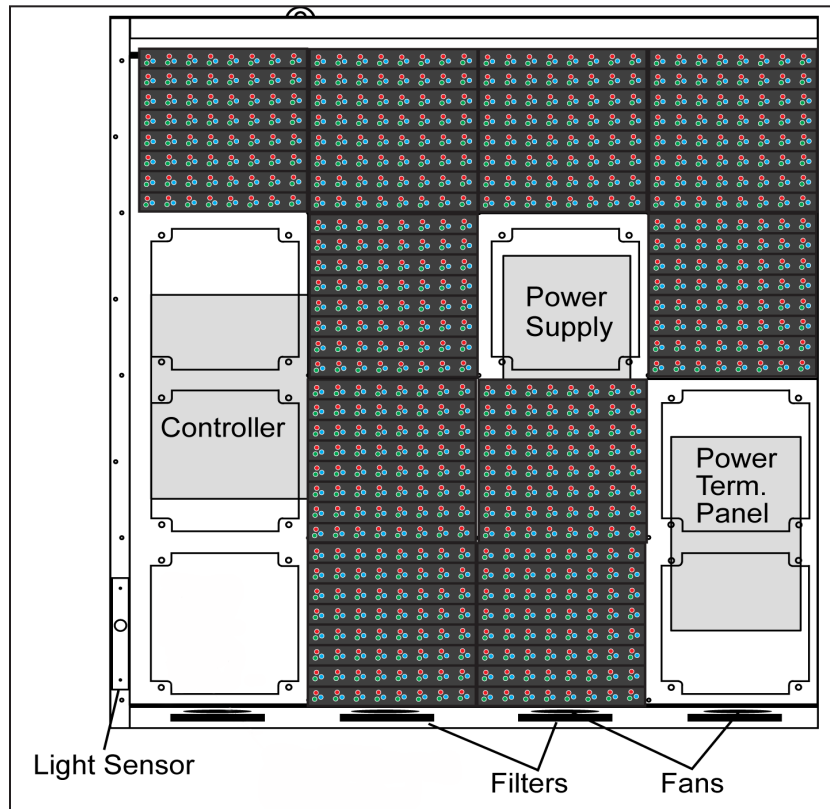

Figure 7: Internal Components
4. VL-35X0 series displays are front accessible, meaning that access to the internal components is gained by removing the front modules of the display. **Figure 7** shows the approximate location of internal components.
The controller is the brains of the display, receiving communication from the computer and then sending information to the modules. The controller is located in the lower left area of displays as shown in **Figure 7**. LEDs on the controller show whether the power and communication signal are working properly.